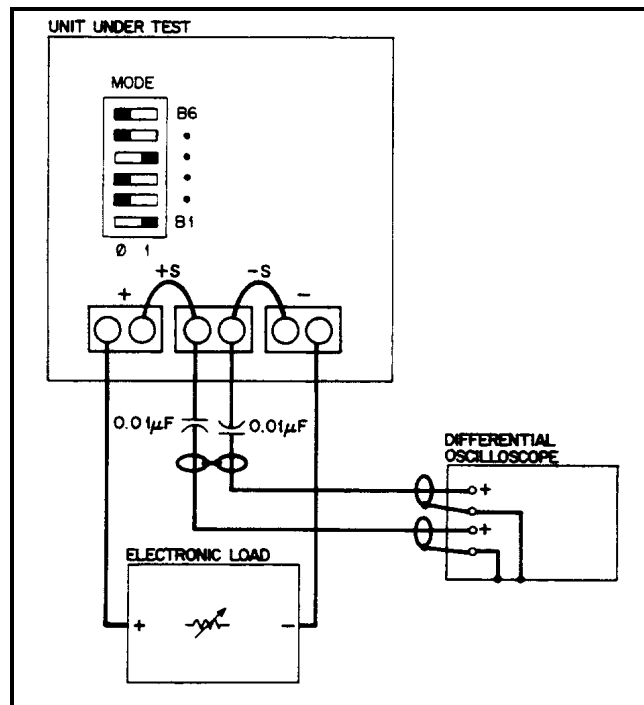

Figure 2-7. Peak-To-Peak Measurement Test Setup, CV PARD Test
**Peak-To-Peak Measurement Procedure.** Figure 2-7 shows the interconnections of equipment to measure PARD in Vpp. The equipment grounding and power connection instructions on Page 23 apply to this setup also. Connect the oscilloscope to the + S and - S terminals through 0.01 $\mu\text{F}$  blocking capacitors to protect the oscilloscope's input from the unit's output voltage. To reduce common-mode noise pickup, set up the oscilloscope for a differential, two-channel voltage measurement. To reduce normal-mode noise pickup, use matched-length, 1 meter or shorter, 50 $\Omega$  coaxial cables with shields connected to the oscilloscope case and to each other at the other ends. Proceed as follows:
- a. Connect the test equipment as shown in Figure 2-7. Operate the load in constant resistance mode (Amps/Volt) and set resistance to maximum.